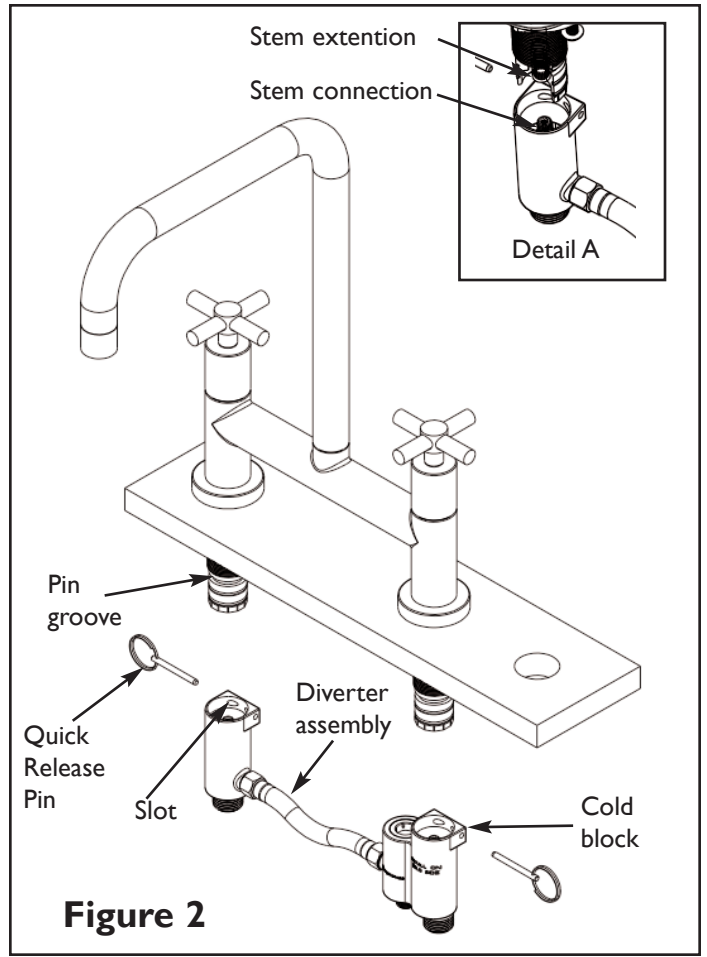

Figure 2
2. Attach the diverter assembly to shank - one side at a time (Cold block to the shank on cold side) as follows: Reference **Fig. 2**
- c. Check the alignment of the pin groove of shank and slot in body. Secure position by pushing quick release pin through slot and into groove. See **Fig. 2**.